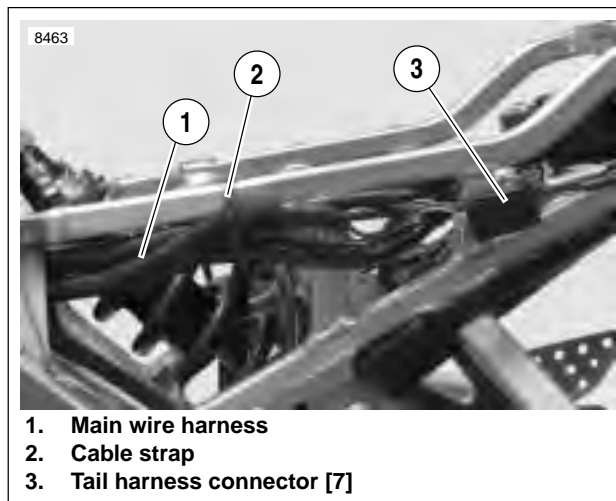
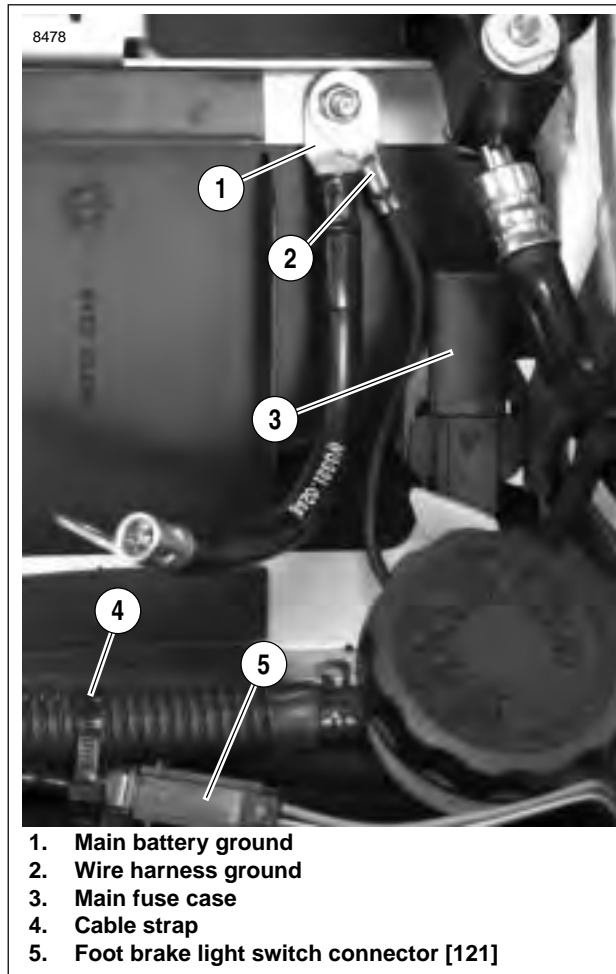

Figure 7-72. Tail Harness Connector
Figure 7-73. Battery Tray Wiring
7. See Figure 7-72. Disconnect tail harness connector [7] (3).
8. See Figure 7-73. Remove wire harness ground (2).
9. Remove main fuse case (3).
10. Disconnect foot brake light switch connector [121] (5).
22. See Figure 7-73. Connect foot brake light switch connector [121] (5). Install cable strap (4).
23. Install main fuse case (3).
24. Install main battery ground (1) and wire harness ground (2). Tighten fastener to 48-72 **in-lbs** (5.4-8.1 Nm).
25. See Figure 7-72. Connect tail harness connector (3). Attach cable strap (2).